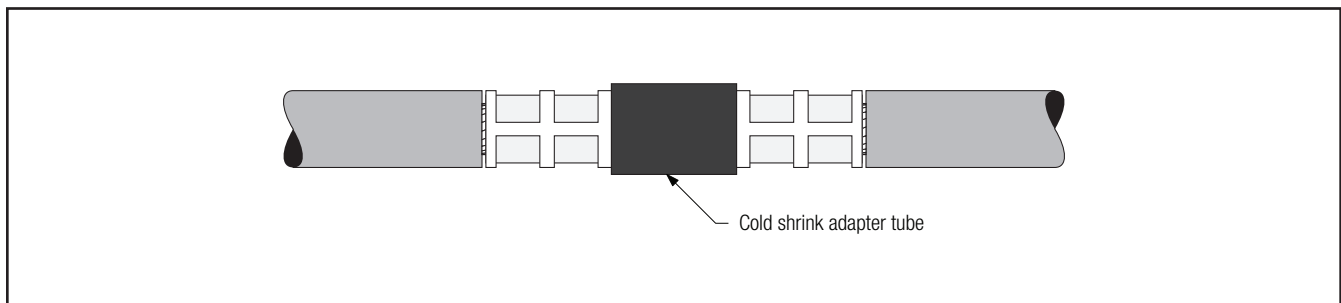

Figure 10
- 4.2 **If using cold shrink adapter tube:** Position adapter tube over the connector. Shrink adapter near center of connector by pulling and unwinding the loose core end in a counter-clockwise direction (*Figure 10*).